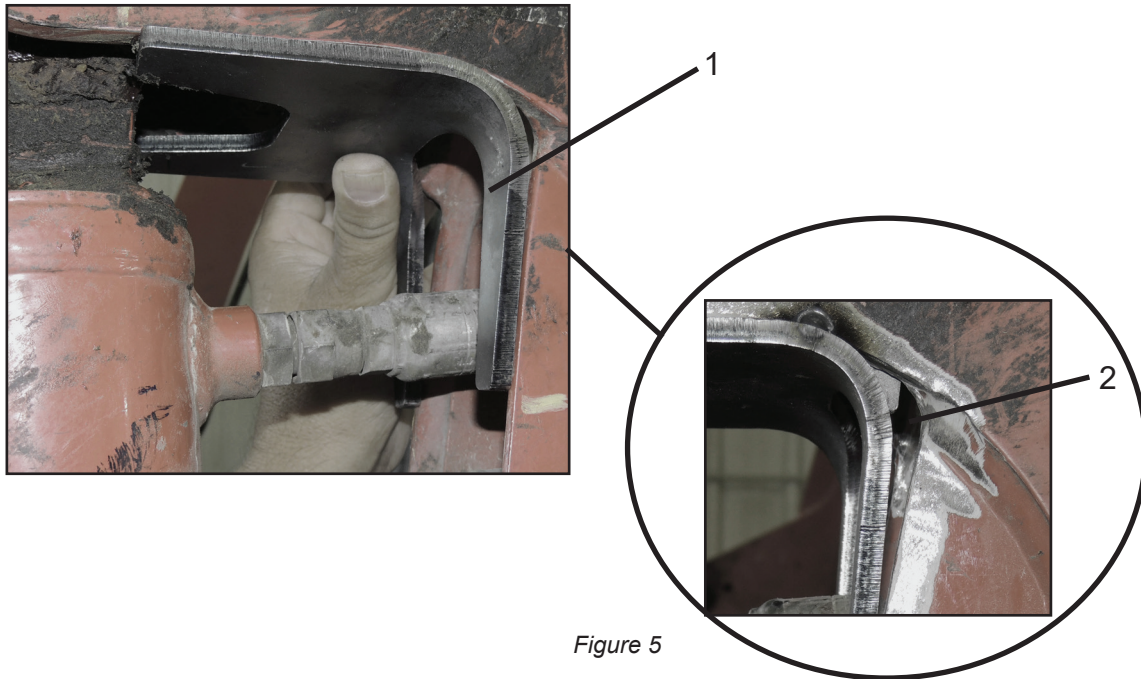

Figure 5
7. Place the arm fork lug reinforcement “H” plate on the inside of the arm fork lug cavity with the long “H” plate opening facing down (Figure 5, Item 1). Note there may be a small void at the radius (Figure 5, Item 2).